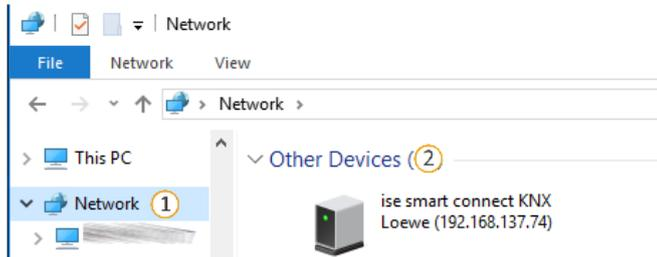

Figure 2: Calling up the device network via the network environment
- Figure 2 (1): Double click on the device icon (2).